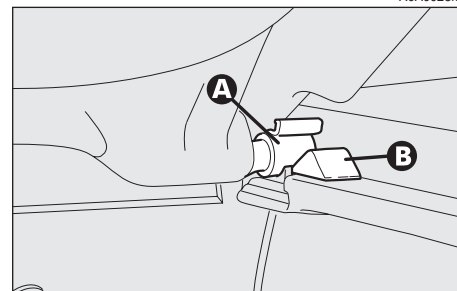

fig. 21
- release the pins (**A-fig. 21**) at the outside of the shelf from their housings (**B**) obtained in the side supports, then remove the shelf pulling it outwards.